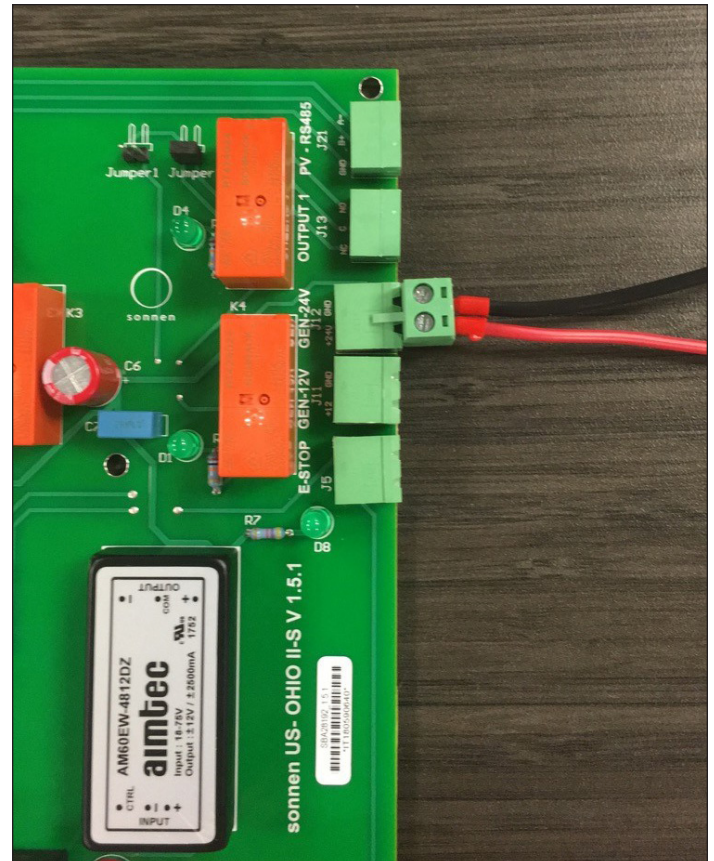

Fig. 33 24V signal connection
4. Insert the plug into the J12 port on the HUB board as shown in Fig. 33 below.